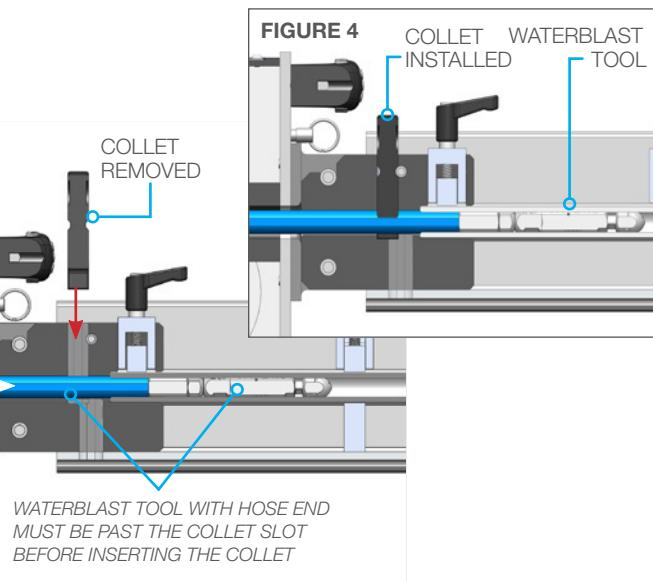

FIGURE 4
4. When the waterjet tools pass the Collet slot, install the Collet and quick release pin. (**Figure 4**)